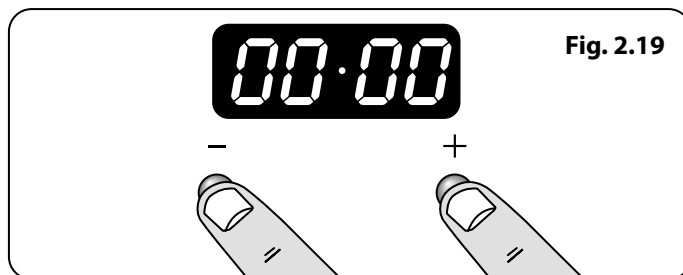

Fig. 2.19
2. To set the clock press the [+] and [-] buttons simultaneously (**Fig. 2.19**), then either the [+] or [-] button to set the correct time.